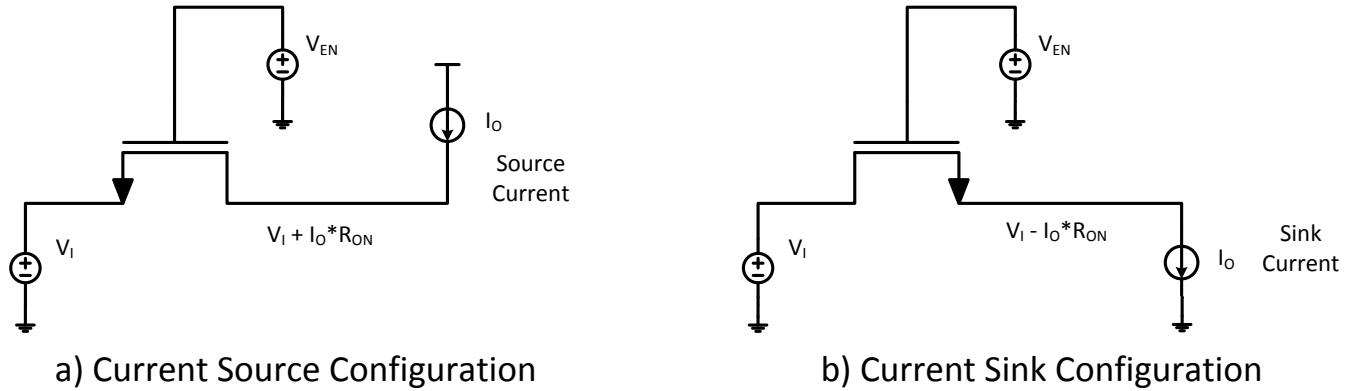

Figure 7-1. Current Source and Current Sink Configurations for R_{ON} Measurements
- (1) All typical values are at T_A = 25°C.
(2) Measured by the voltage drop between the SCL1 and SCL2, or SDA1 and SDA2 terminals, at the indicated current through the switch. Minimum ON-state resistance is determined by the lowest voltage of the two terminals.
(3) Measured in current sink configuration only (See Figure 7-1)
over recommended operating ambient temperature range, EN = 3.3 V, $V_{IH} = 3.3$ V, $V_{IL} = 0$, $V_M = 1.15$ V (unless otherwise noted) (see Figure 7-1).
over recommended operating ambient temperature range, EN = 2.5 V, $V_{IH} = 3.3$ V, $V_{IL} = 0$, $V_M = 0.75$ V (unless otherwise noted) (see Figure 7-1).
over recommended operating ambient temperature range, EN = 3.3 V, $V_{IH} = 2.3$ V, $V_{IL} = 0$, $V_T = 3.3$ V, $V_M = 1.15$ V, $R_L = 300$ Ω (unless otherwise noted) (see Figure 7-1).
over recommended operating ambient temperature range, EN = 2.5 V, $V_{IH} = 2.3$ V, $V_{IL} = 0$, $V_T = 3.3$ V, $V_M = 0.75$ V, $R_L = 300$ Ω (unless otherwise noted) (see Figure 7-1).